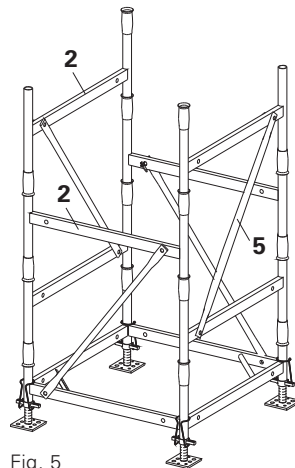

Fig. 5
5. Mount six Stacking Frames (2). (Fig. 5)
6. Install four Diagonal Braces (5). (Fig. 5)